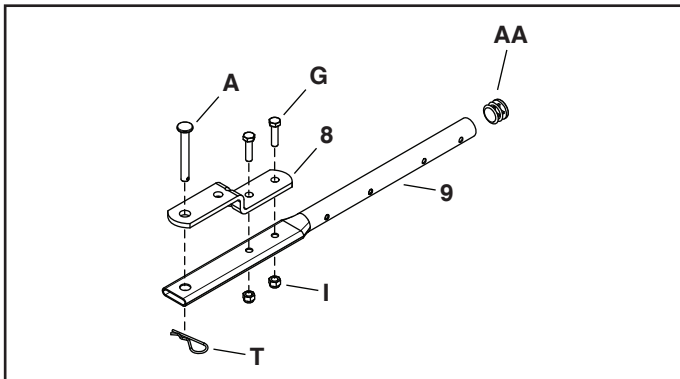

FIGURE 1
STEP 1: (SEE FIGURE 1)
- Insert a plug (AA) into the end of the hitch tube (9).
- Attach the hitch bracket (8) to the hitch tube using two 5/16" x 1-1/4" hex bolts (G) and 5/16" nylock nuts (I). **Tighten.**
- Install the hitch pin (A) in the hitch bracket and hitch tube and secure it with the hairpin cotter (T).